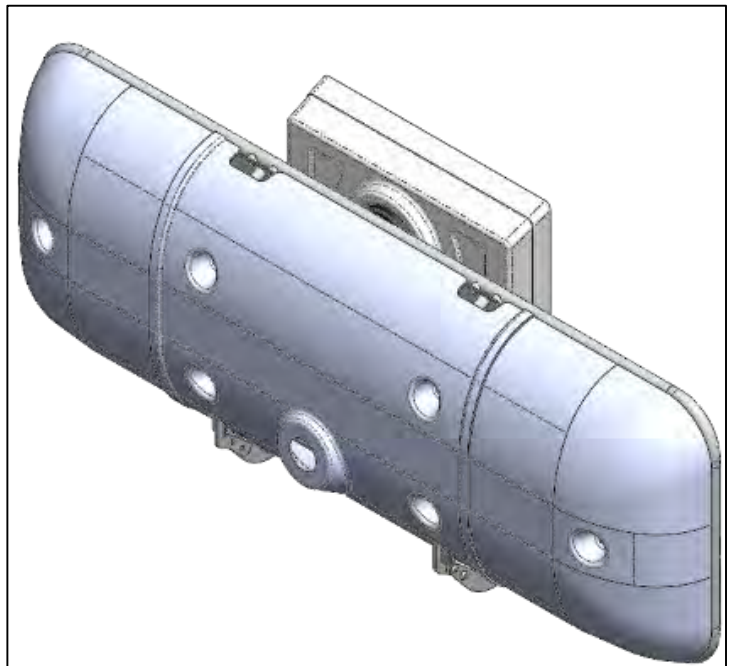

Fig. 8
- Once the tray has started to move, release the plunger pin and continue to lift the drip tray until the plunger pin 'clicks' into position. The product is now in the 'stowed' position (Fig.8).